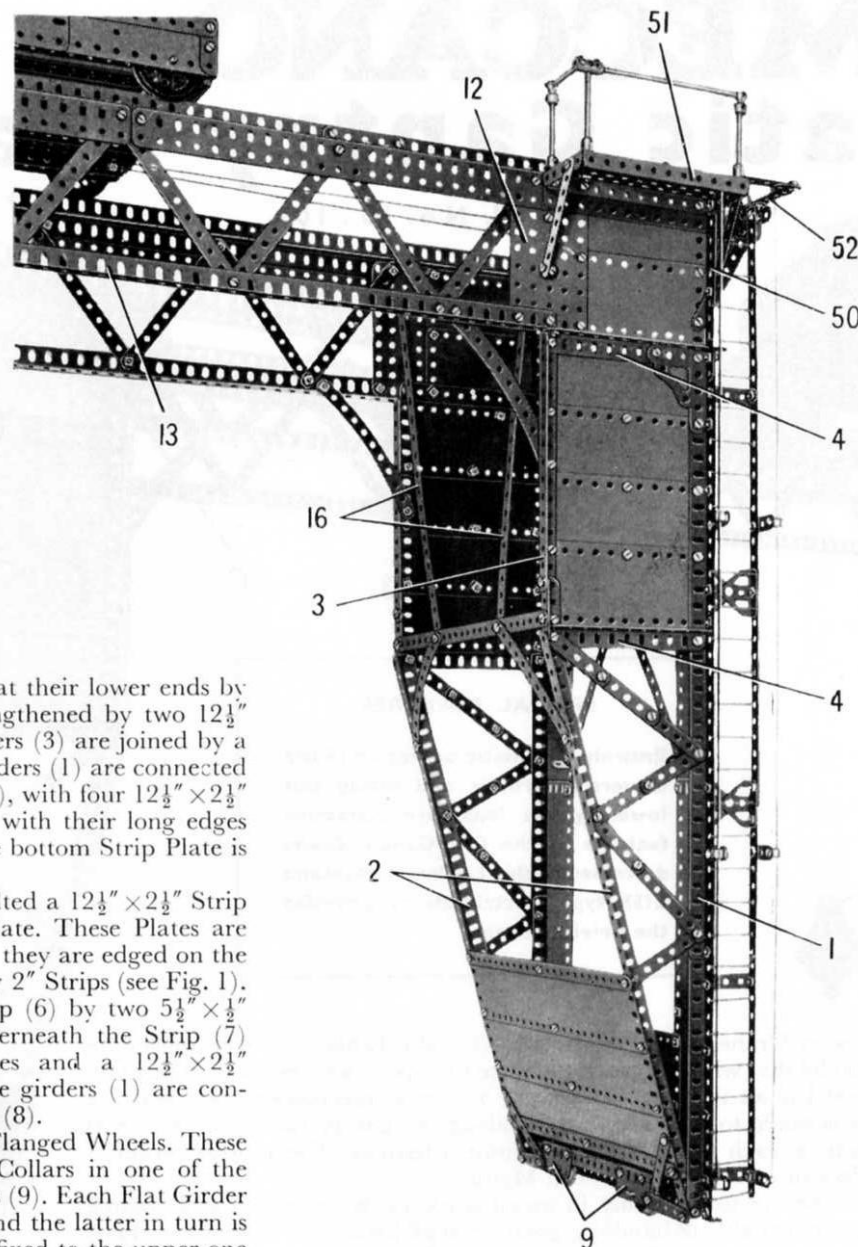

FIG. 2
The towers or legs that support the gantry at each end are similar in construction, and a close-up view of one of them is shown in Fig. 2. The main girders (1) on each side are each made from an  $18\frac{1}{2}$ " Angle Girder and a  $9\frac{1}{2}$ " Angle Girder overlapped three holes. To the lower end of this built-up girder (1) an  $18\frac{1}{2}$ " Angle Girder (2) is fixed, and this is extended upward by a built-up girder (3) made from a  $7\frac{1}{2}$ " and a 2" Angle Girder. The girders (1) and (3) are connected by  $5\frac{1}{2}$ " Angle Girders (4) and four  $5\frac{1}{2}$ "  $\times$   $2\frac{1}{2}$ " Flexible Plates, with the top rear corner strengthened by a Corner Gusset. Bracing strips are bolted between the Girder (2) and the girder (1) as shown.
### The Inspection Ladder (Fig. 2)